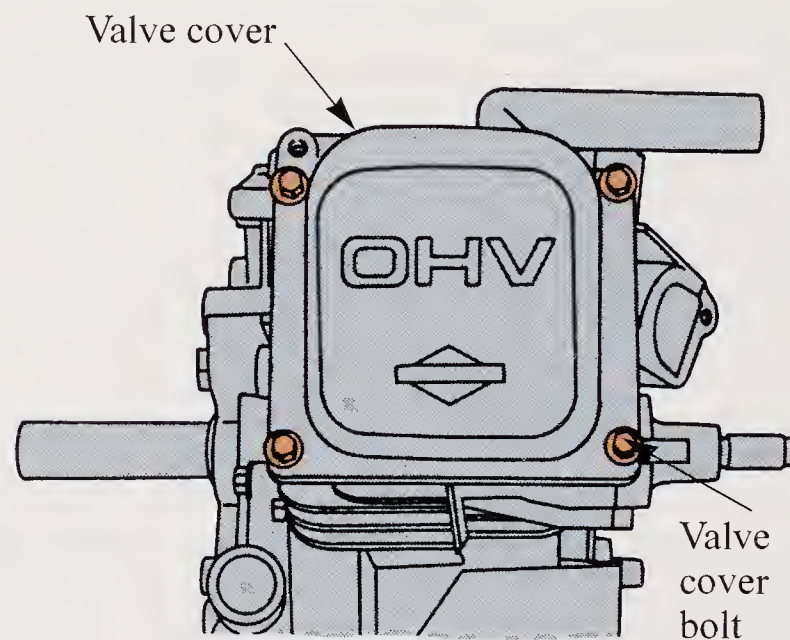

Figure 17-70. Typical valve cover. To remove cover, loosen bolts on each corner. (Briggs & Stratton Corp.)
2. Remove the valve cover bolts and the cover. See **Figure 17-70**. The rocker arm assembly should now be exposed.